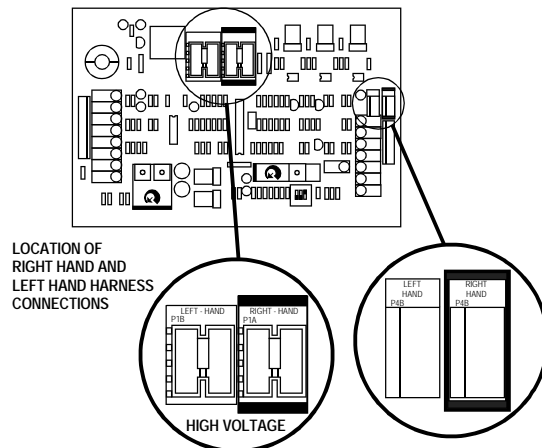

Figure 7
▲ To convert operator to left hand operation, make certain the power switch is off, and locate 8-pin motor connection plug in center of control board. Squeeze locking tabs to remove connector from "RIGHT HAND" socket, and insert into "LEFT HAND" socket. Locate 3-position limit switch harness on edge of control board. Move connector to 3- position pin location marked "LEFT HAND". Operator is now setup for a left hand installation (See Fig. 7).
- (3.) Set left/right plugs in the correct position on circuit board for direction gate moves to open viewed from inside fenced area (*See Fig. 7*). **WARNING: STAY CLEAR OF ALL MOVING PARTS AND**